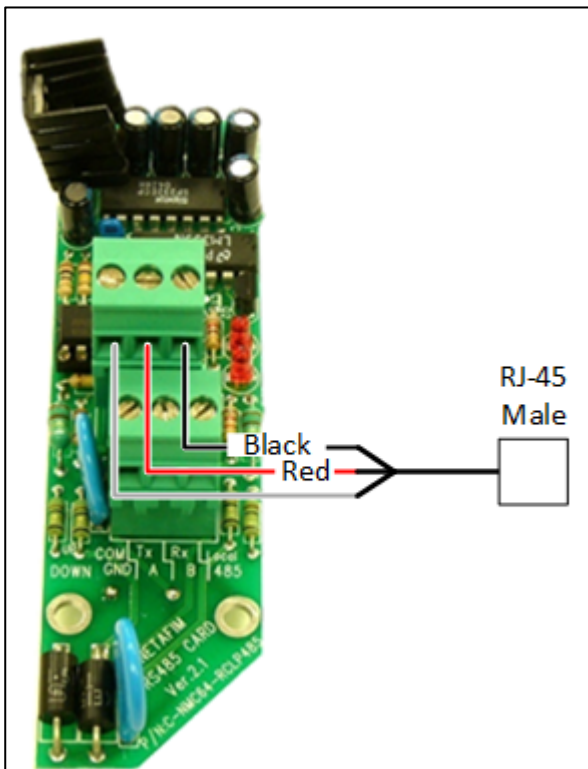

Figure 10: Communication Card Wiring
- The only connection that requires wiring is the Green Field Communication Card. Wire this card to the RJ-45 Male cable as shown in Figure 10.